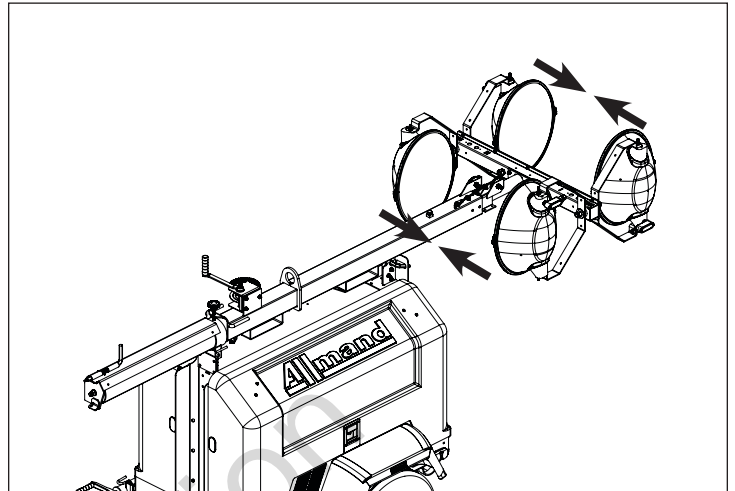

Figure 2
3. Reposition the light fixtures for triling / transport by rotating the lamp yoke perpendicular to the light bar. Face the light fixtures toward the center of the trailer. See Figure 2.